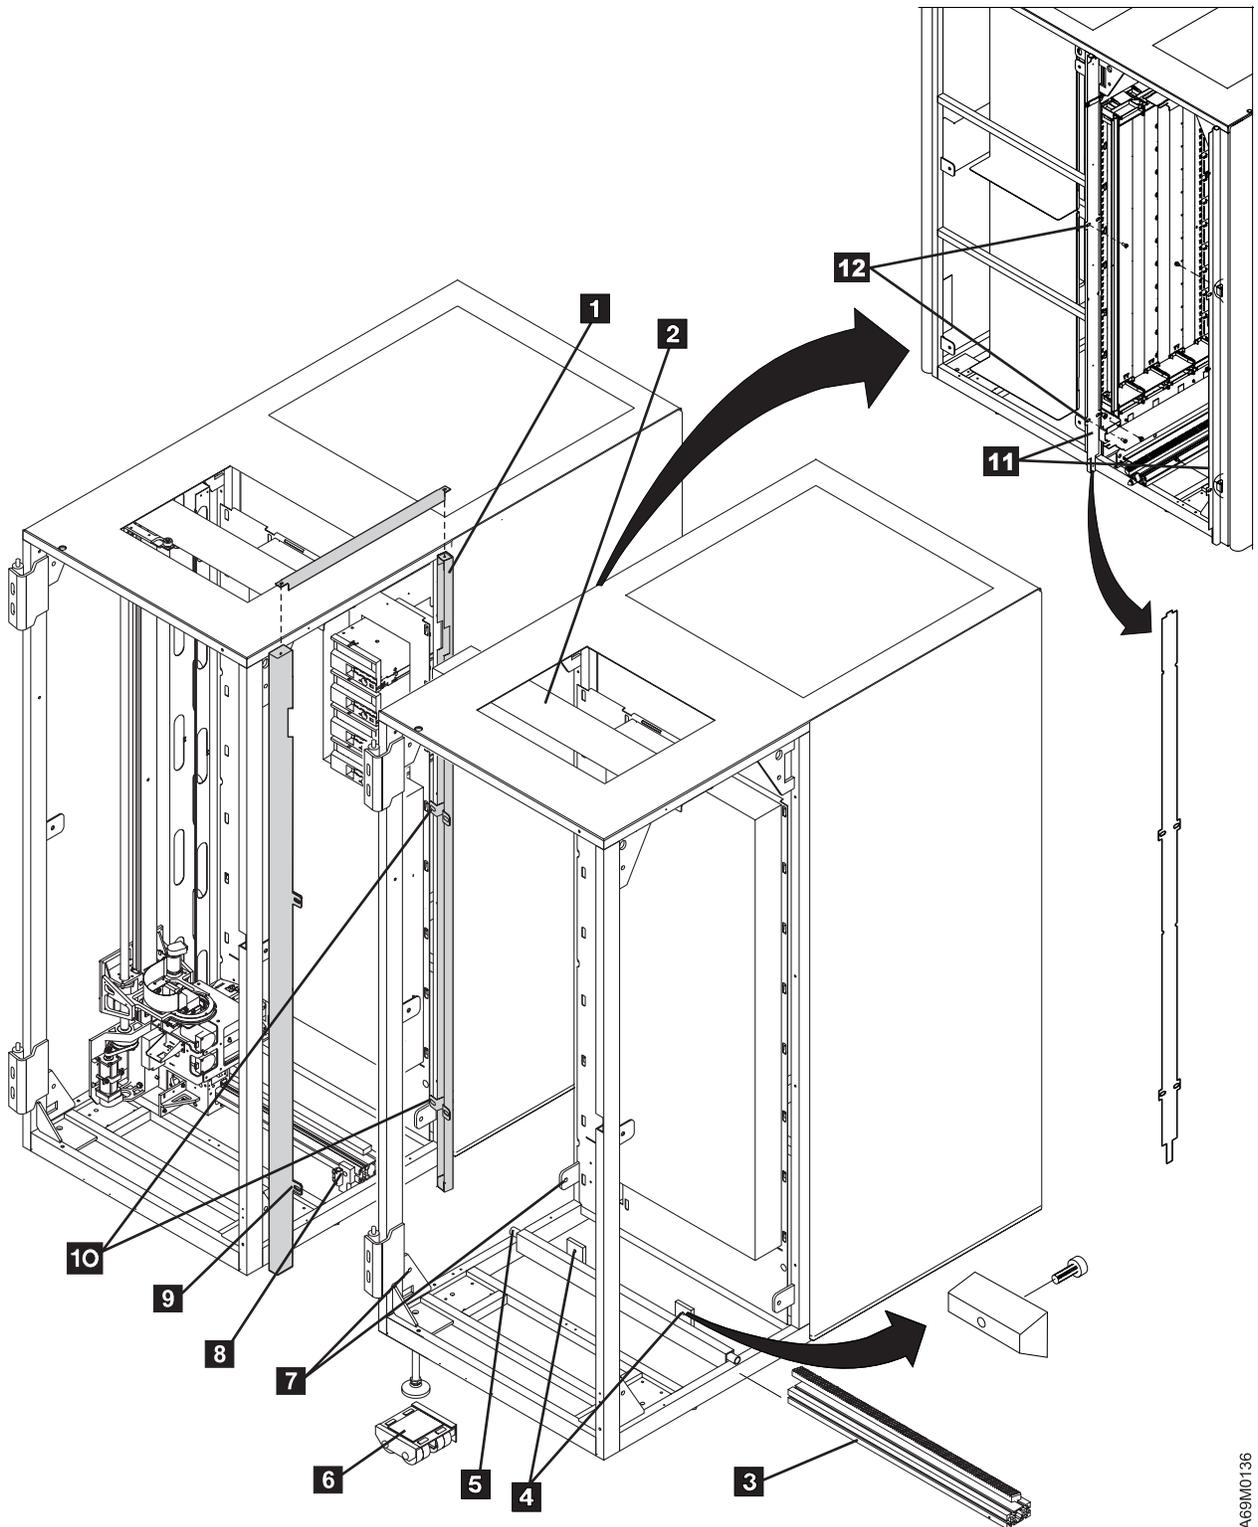

Figure 33. Frame-to-Frame Attachment (C). This figure is repeated for the benefit of the CE.
- ___ 17. Refer to Figure 33 on page 91. Carefully push the expansion frame against the previous frame until the alignment rod **5** is fully seated in the hole of the previous frame. The front cover of the frame you are installing should be parallel to the front cover of the previous frame.
- ___ 25. **Refer to Figure 33 on page 91.** Tighten the two M8 bolts located in bottom corners **7** of the accessor aisle until they are just snug. **Do not overtighten and bend the tabs.**
- ___ 39. Refer to Figure 33 on page 91. Visually check that the alignment rod **5** is fully seated in the hole in the previous frame. If it is NOT fully seated you must fully seat it and recheck the frame alignment before you continue.
- ___ 53. Refer to Figure 33 on page 91 on earlier-style frames only, connect frame spacers **1** and **9** to the previous frame by installing screws into the frame spacer mounting slots **10**. On later-style frames only, connect frame spacers **11** to the previous frame by installing screws into the frame spacer mounting slots **12**.
- ___ 61. See Figure 33 on page 91. On earlier-style frames only, install and tighten one screw into the mounting slot of each separator **10** of the previous frame. On later-style frames only, install and tighten the two screws **12** on the previous frame.